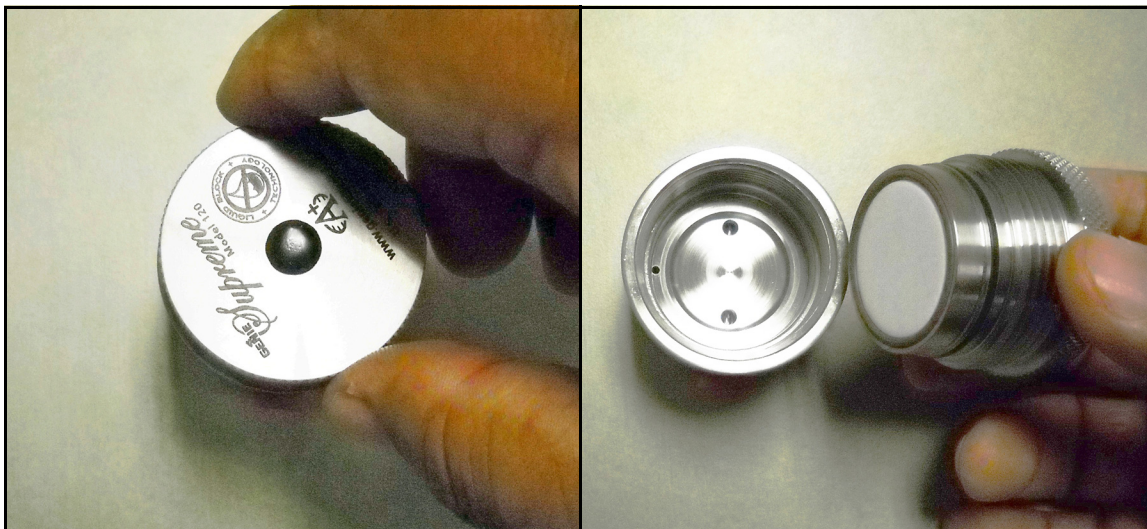

Figure 94: Removing the Filter Cap
2. Turn the filter cap counter-clockwise (see *Figure 94* below). You might need to use a channel-lock wrench to assist in loosening the cap.